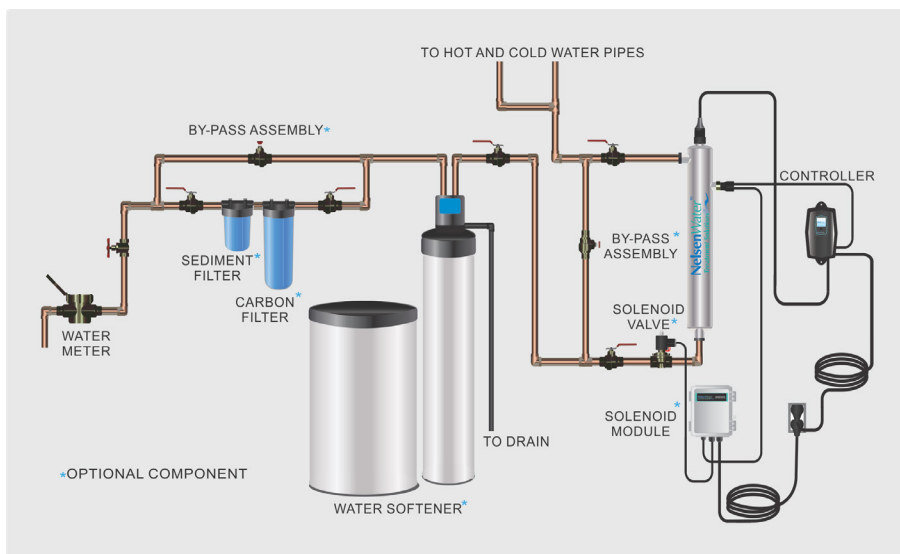

Figure 1. Recommended POE Installation Location
For Point of Entry (POE) systems, choose a location where the main cold water line is accessible. Install the system after other water treatment equipment (softener or filters), but before any branches (See Figure 1). For Point of Use (POU) systems, install the unit just before the faucet. NWTS recommends that a 5 micron filter be installed **before** the UV system for a final polishing step before the water is disinfected.
Step 10: Mount the controller to the wall so it is above or beside the reactor to ensure that no moisture can deposit on any of the connections (see Figure 1). Always mount